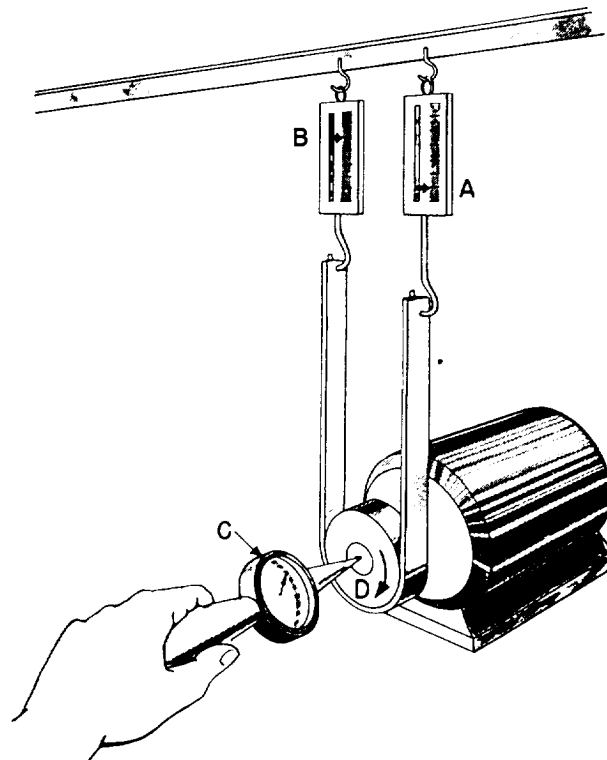

Figure 8-3.-A prony brake.
motor or a steam or gas engine is with the use of the prony brake. Figure 8-3 shows you the prony brake setup. A pulley wheel is attached to the shaft of the motor and a leather belt is held firmly against the pulley. Attached to the two ends of the belts are spring scales. When the motor is standing still, each scale reads the same— 15 points. When the pulley turns in a clockwise direction, the friction between the belt and the pulley makes the belt try to move with the pulley. Therefore, the pull on scale A will be greater than 15 pounds, and the pull on scale B will be less than 15 pounds.
You can find the number of revolutions by holding the revolution counter (fig. 8-3, C) against the end of the shaft for 1 minute. This counter will record the number of turns the shaft makes per minute. The distance (D) that any point on the pulley travels in 1 minute is